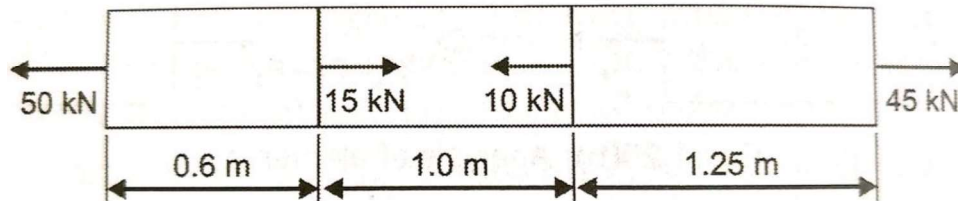

Fig.1
b) A steel bar of cross-section  $500 \text{ mm}^2$  is acted upon by forces shown in Fig.1. [7]